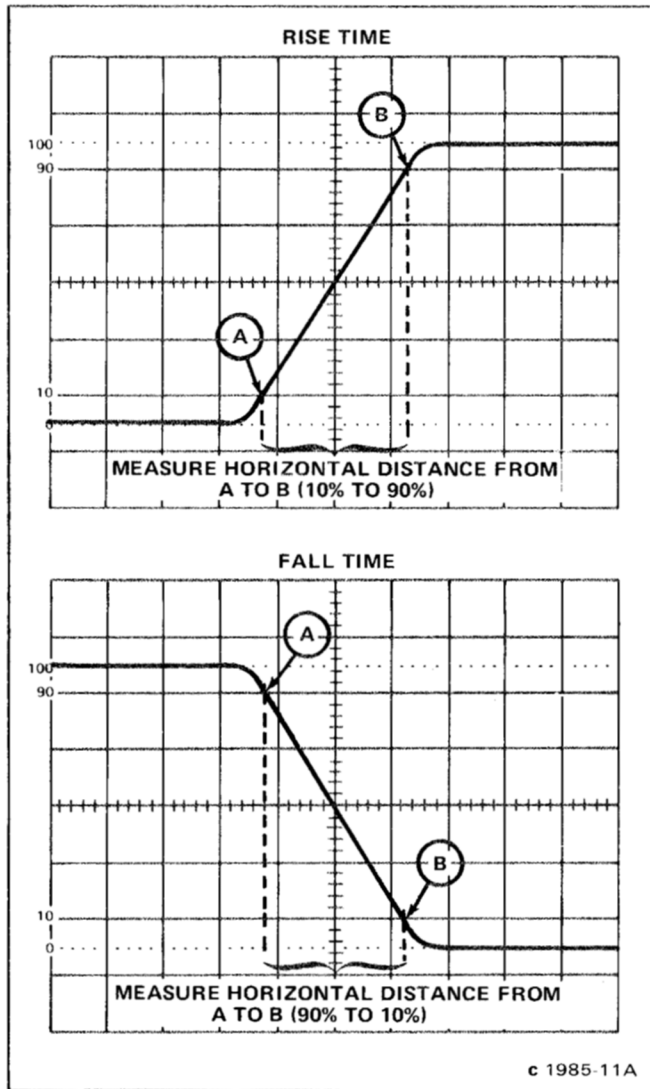

Fig. 2-6. Measuring the rise time and fall time of a displayed waveform.
6. Set the TIME/DIV switch and POSITION control to display the rising or falling portion of the waveform within the center 8 graticule divisions as shown in Figure 2-6 (see General Operating Information in this section for discussion of timing measurement accuracy).
7. Determine rise time or fall time by measuring the horizontal distance in divisions between the point on the rising or falling portion of the waveform that is 10% and the point that is 90% of the total display amplitude (see Fig. 2-6).
Example: Assume that the horizontal distance between the 50% amplitude points is 3 divisions, and the TIME/DIV switch setting is  $.1 \mu\text{s}$  (see Fig. 2-6).